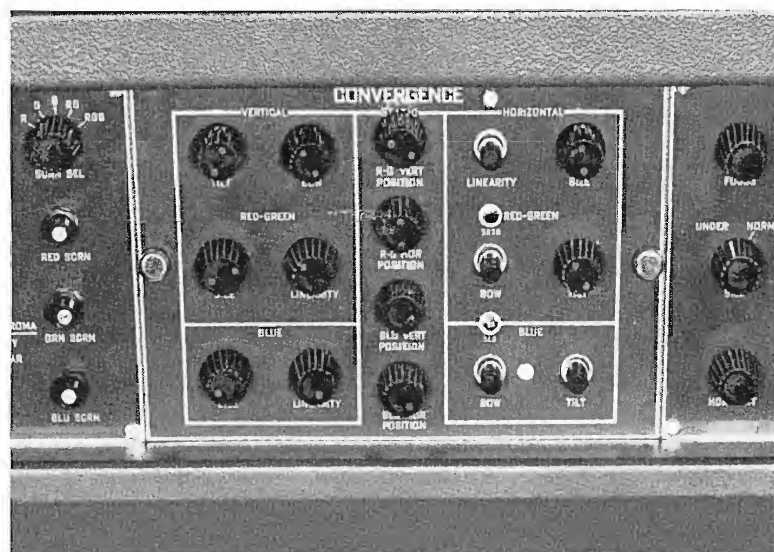

FIG. 15. Convergence control panel.
In the TM-21, unusually good performance with respect to convergence is made possible by the conservative design of the deflection circuits, which provide good waveforms to start with. As indicated in Fig. 14, both the output tubes and the output transformers serve as signal sources for the convergence circuits. Stability and ease of operation were given strong emphasis in the design of the convergence section of the TM-21. An examination of the convergence control panel, shown in Fig. 15, will show how the operation of this section of the monitor has been greatly simplified. Two features of the convergence circuit design which particularly facilitate a straightforward set-up procedure are: (1) the controls are arranged so that the red and green rasters may be adjusted as a pair, relative to each other, after which the blue raster may be brought into registration relative to the red-green pair, and (2) every control has been made to direct some type of movement in either the horizontal or vertical direction, not along the 120-degrees axes that prove to be quite confusing in conventional convergence arrangements.
The large number of convergence controls needed for a tricolor tube (16 in the case of the TM-21) need not seem too formidable if each one performs some readily-understood function. Those used in the TM-21 are so designated and arranged on the control panel that it is easy to visualize them as trimming adjustments for the deflection circuits. There are only five basic types of controls (see Fig. 15) and these are readily understood. The *position* controls are only trim adjustments for the centering function, while *size* and *linearity* carry the same connotation as in conventional deflection systems. The *tilt* and *bow* controls produce these effects on the lines of the grating pattern commonly used to facilitate convergence adjustments. The *bow* control affects the curvature of the lines, while the *tilt* controls are used to make them parallel.